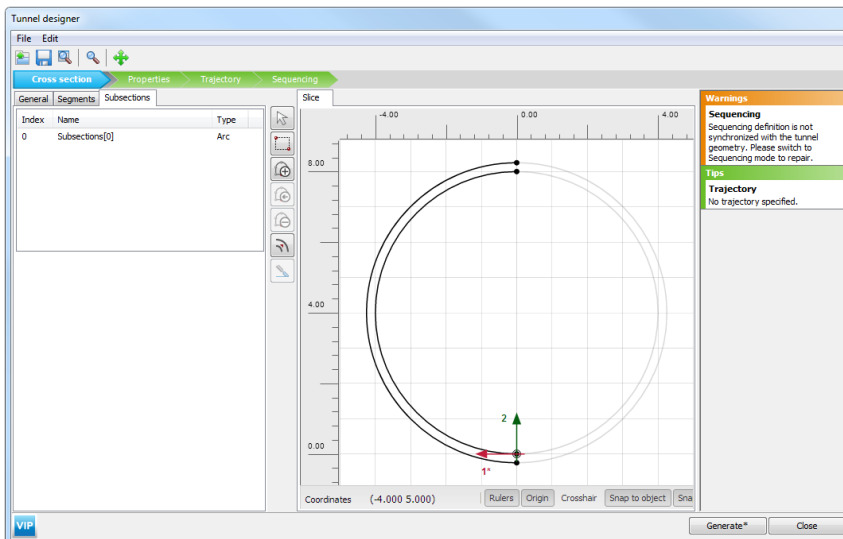

Figure 5.5 The Cross section tabsheet of the Tunnel designer
- Assign a value of 0.25 m and click *OK*. A screenshot of the *Cross section* tabsheet after the proper assignment is given in Figure 5.5.